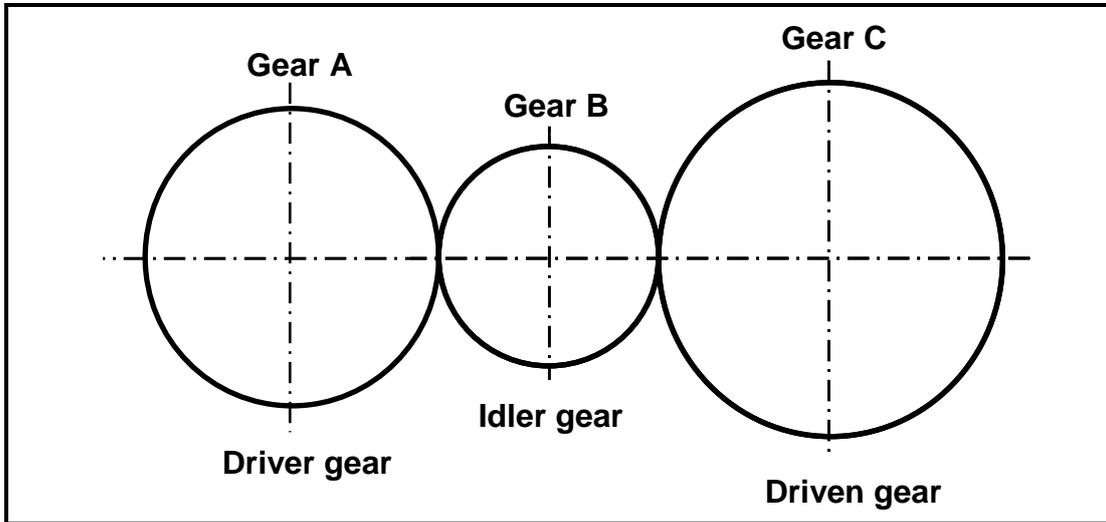

FIGURE 11.5
- 11.5 The gear system in FIGURE 11.5 below is used to control a garage door. The driven gear has 80 teeth and rotates at 260 r/min. The idler gear, used to change the direction, rotates at 800 r/min. The driver gear has 60 teeth.